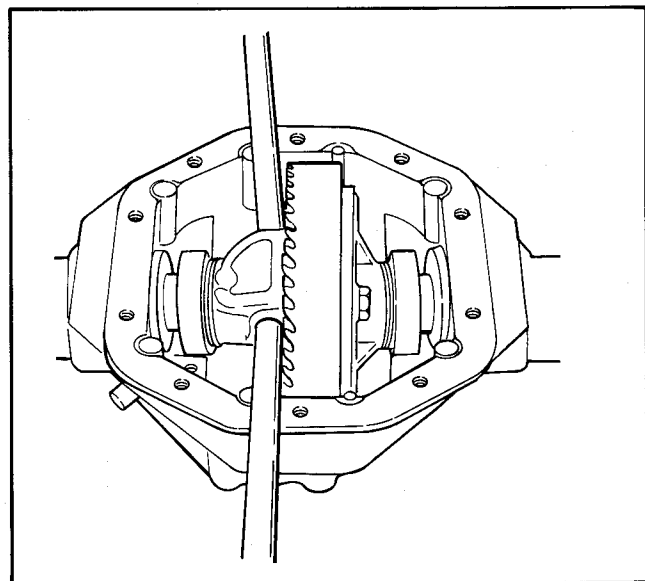

Figure 4-20 - Prying Out Case
- f. Pry carrier from differential case assembly with two pry bars, Figure 4-20.